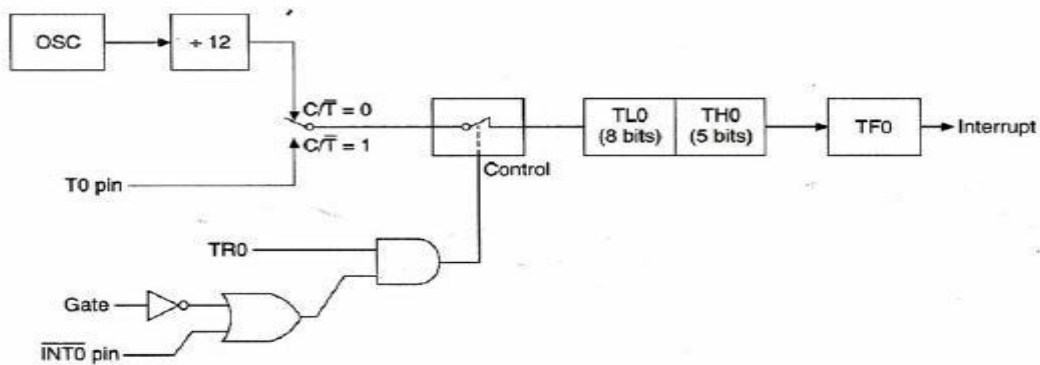

Figure 1: Timer0, mode0 _13-bit Counter
- From Figure 1, it is clear that if $C/T = 0$, then the register is incremented after every machine cycle.